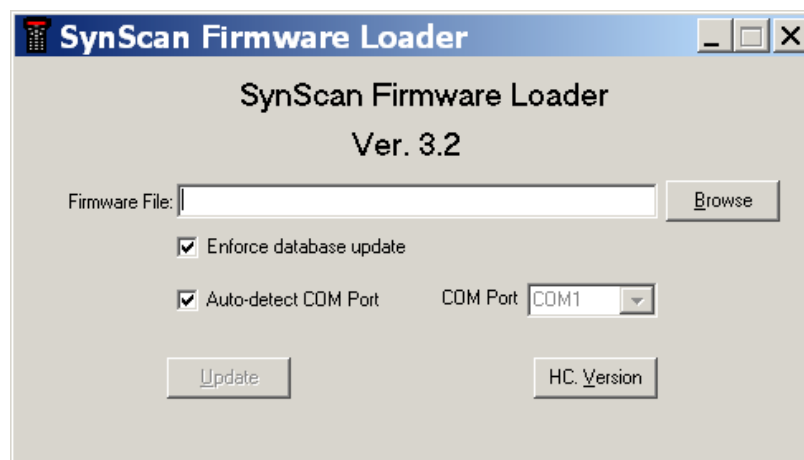

Fig. 10.3a
2. On the computer, run the SynScanFirmwareLoader.exe. An application window is shown in Fig 10.3a.